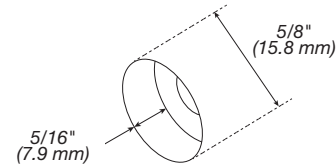

Figure 2
3. Countersink the two holes near the ends of the panel on the back of the panel, 5/16" (7.9 mm) deep and 5/8" (15.8 mm) diameter for screw head clearance (refer Figure 2).